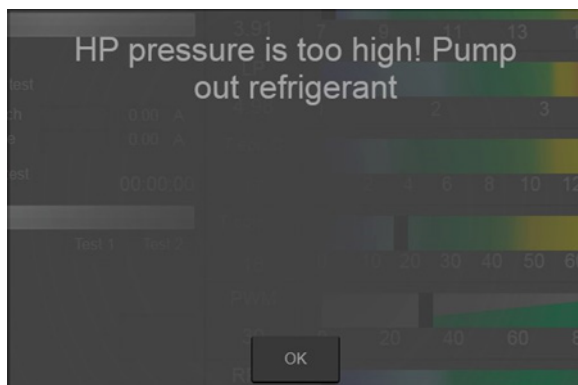

Figure 34. Message «HP pressure is too high!»
- «HP pressure is too high!» (Fig.34). Turn the valves off, enter the main menu and pump the refrigerant out.